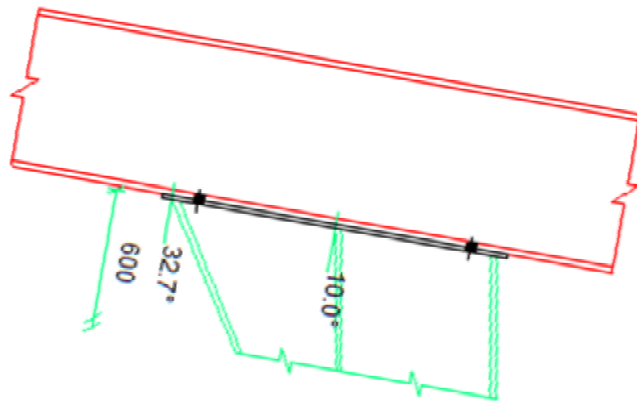

Fig 1.4: Oversailing rafter connection with haunched column.
- If the column is haunched the haunch must support the left beam/rafter which then maps to the lower column as illustrated in fig 1.4 above. This may require the beam/rafter to be reversed (viewed from the far side).